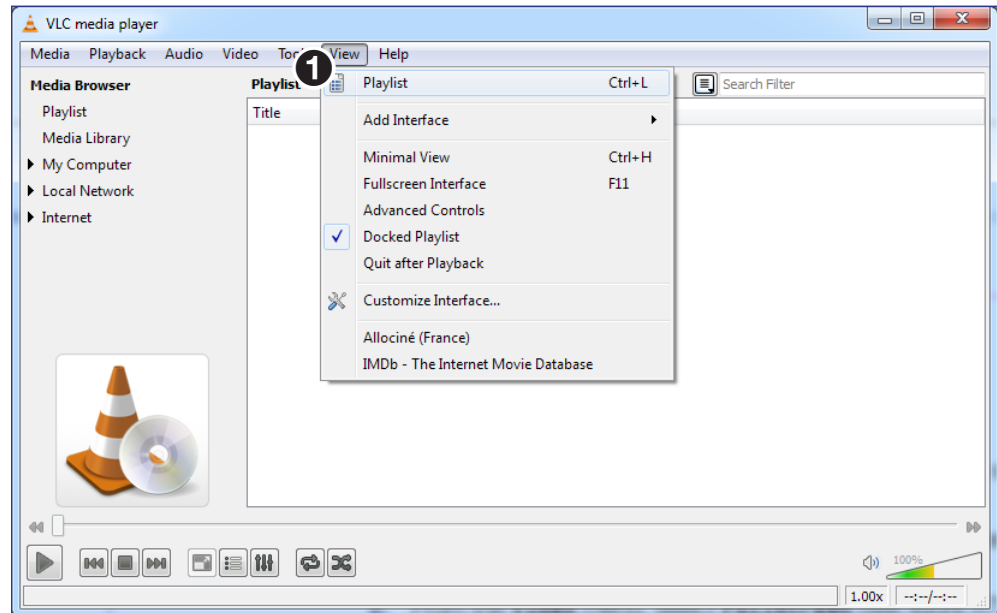

Figure 83. VLC Playlist
2. From the **View** menu, select **Playlist** (see figure 83, ①).